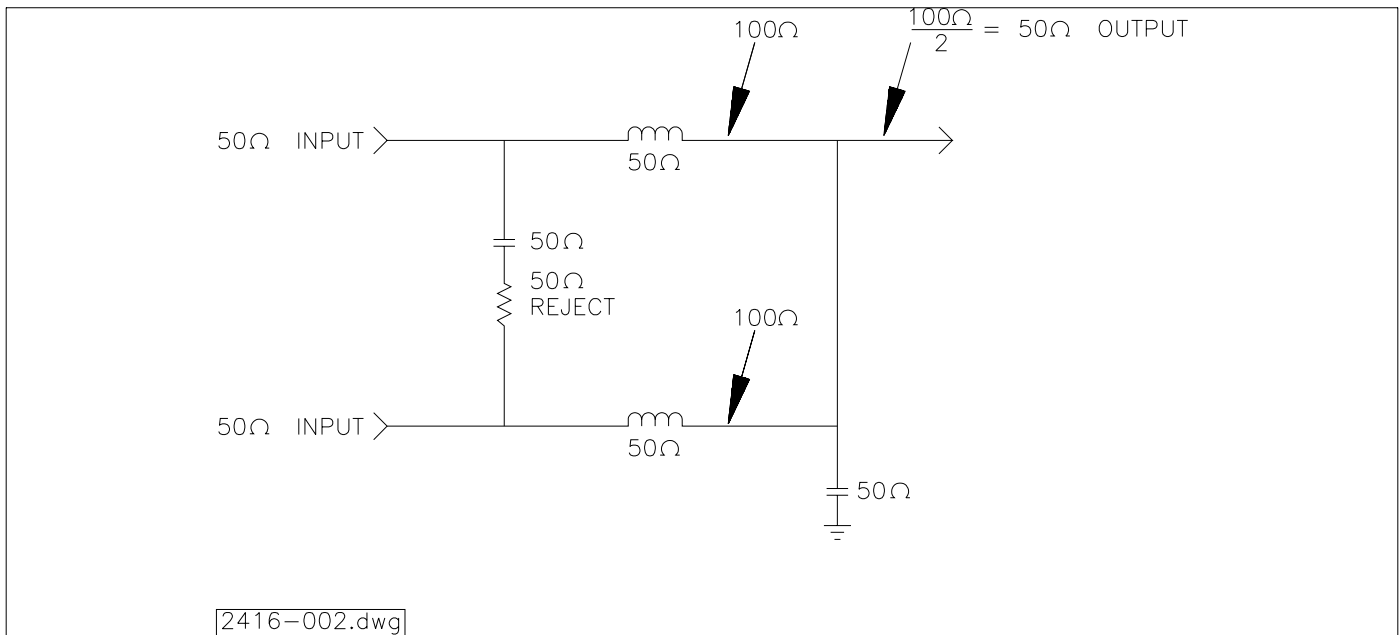

Figure 4-2
The combining networks are “L” matching networks, which transform each of the 50-ohm combiner inputs up to 100 ohms at the combined point, See Figure 4-2. The combined point impedance (Z) will be the 100 ohms divided by the number of Transmitters combined (2) or  $Z = 100/2 = 50$  ohms.